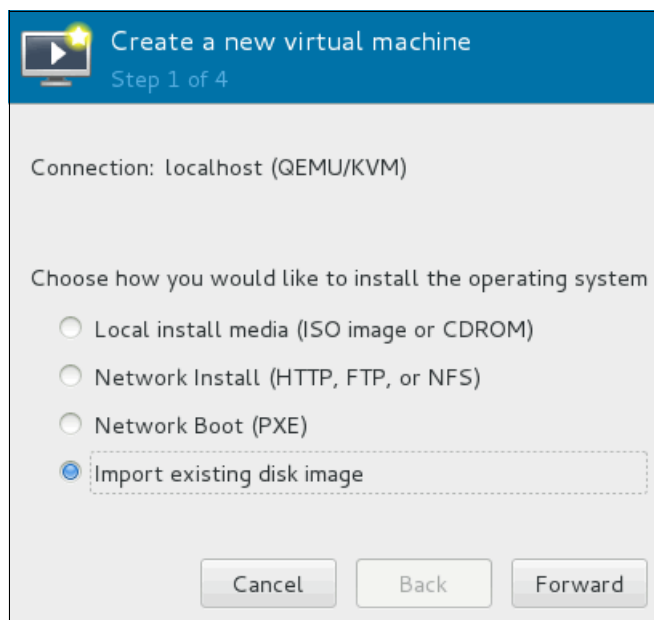

Figure 3-47 Choice of disk image
7. Select **Import existing disk image** (Figure 3-47), and click **Forward**.